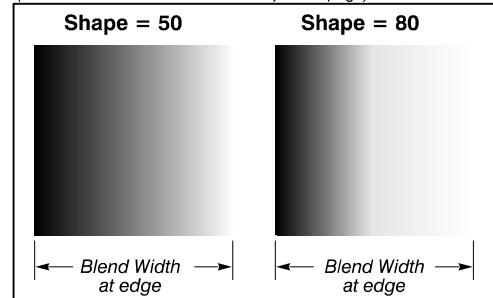

Figure 3-47 "Shape" Examples
- **Blend Shape** determines the rate of roll-off across the blend width, i.e. how quickly the white levels across the blend change from light and dark. Increasing the **Blend Shape** setting accelerates the rate of change at both extremes so that less of the region appears mid-gray (see Figure 3-47).